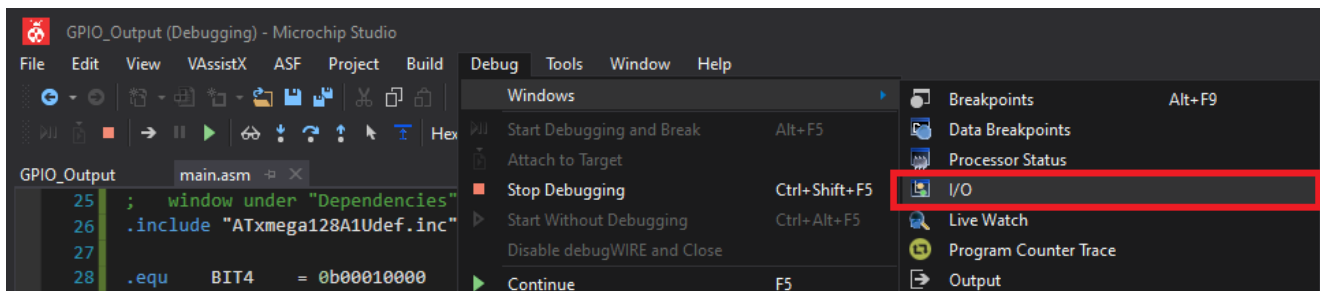

Figure 13: Opening the I/O view.
7. While debugging, you can view any of the processor's registers, I/O ports, memory locations, etc.; a very powerful tool when writing embedded software. Open the *I/O* view by navigating to **Debug** → **Windows** → **I/O**, as shown in *Figure 13*.